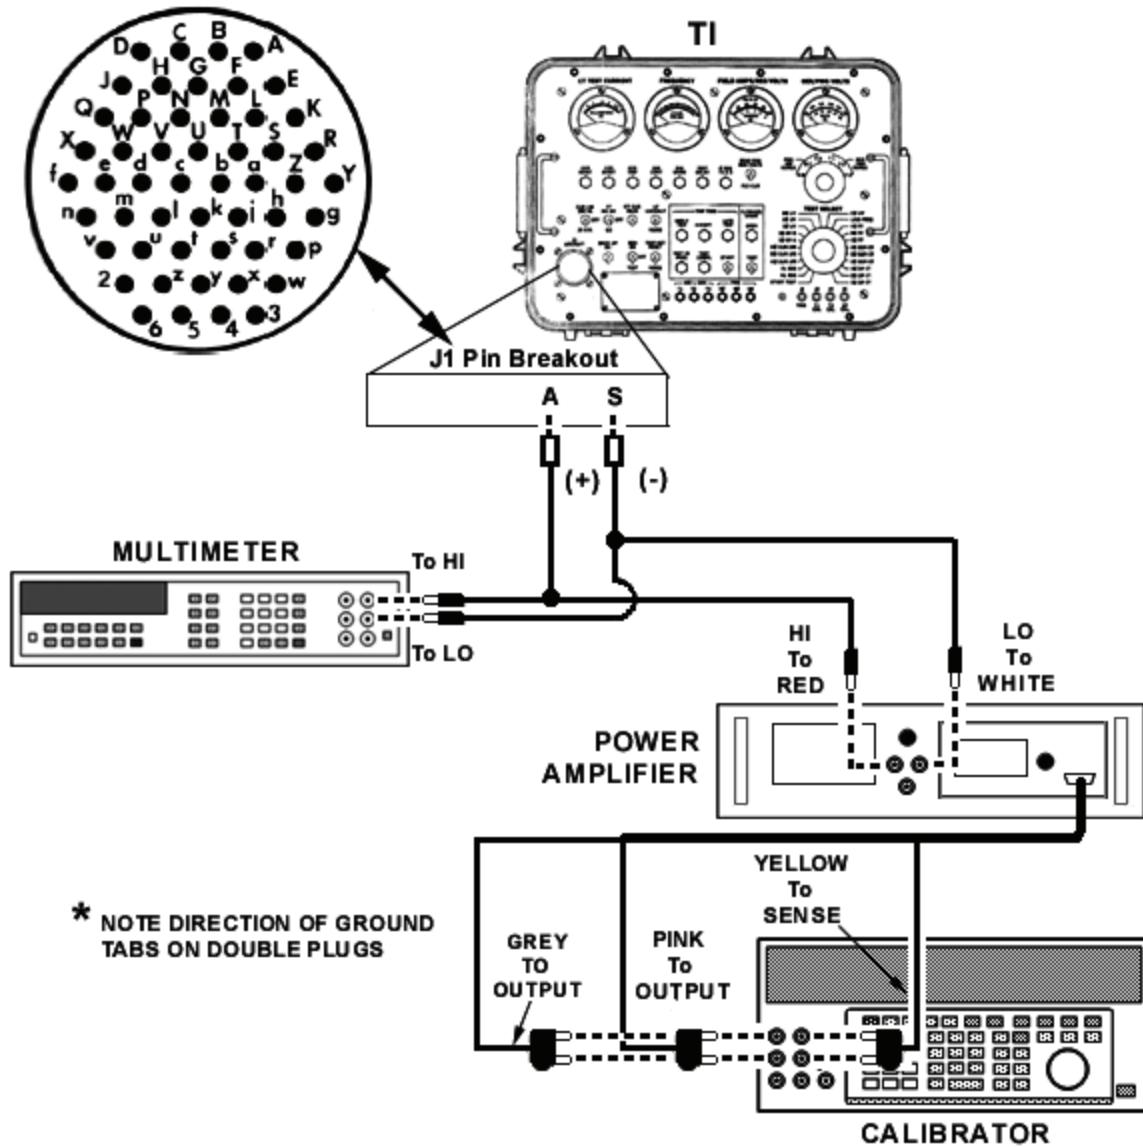

Figure 1. Power source - equipment setup.
- c.** Connect equipment as shown in figure 1.